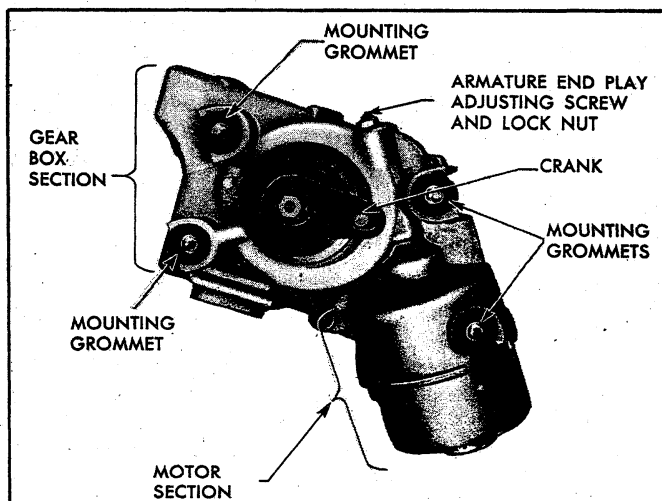

Fig. 91 - Wiper Assembly--Corvette
The 2-speed windshield wiper (fig. 91) consists of a compound wound 12 volt dc motor and a gear box section containing the gear mechanism and relay control. The motor armature is fitted with a worm gear which drives the main gear assembly and crank arm.
2. Remove the armature end-play adjusting screw (fig. 91).